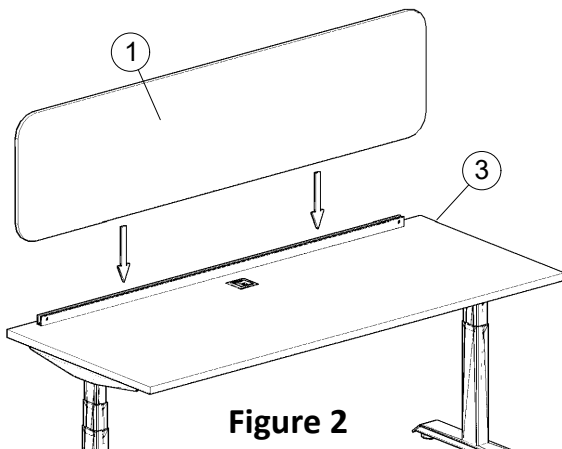

Figure 2
3. Insert and align the PET Screen into the Frameless Extrusion, as shown in Figure 2.